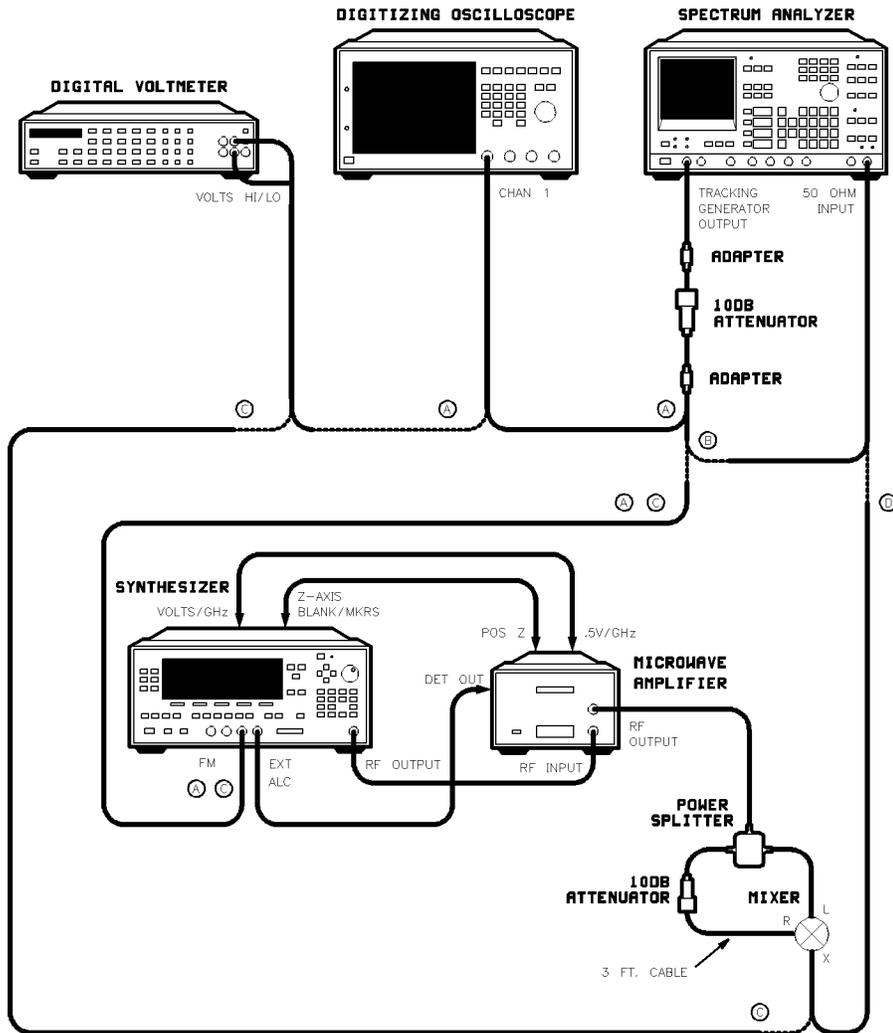

Figure 2-29. FM Bandwidth Test Setup
1. Connect the equipment as shown in Figure 2-29 with the tracking generator output connected to the channel 1 input of the oscilloscope and to the FM input of the synthesizer (A). A DVM can be used in place of the oscilloscope for rms measurements. Preset all the equipment and let them warm up at least one hour.